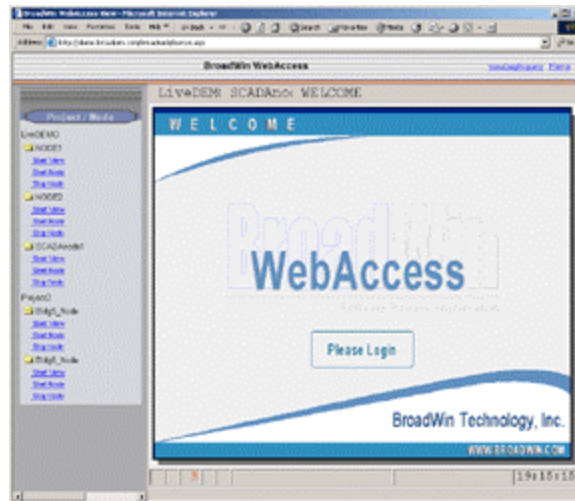

Figure 1.20 VIEW Login - multiple Nodes
- 4a. If there are more than one Project or SCADA node, a Project Tree appears (Figure 1.20). Select **Start View** under the SCADA node from the Navigation Tree in the left frame.
Hint - Notice that Figure 1.19 does not show the Navigation Tree in the left frame. Yet, Figure 1.20 shows multiple Nodes each with Start Node, Start View and Stop Node. If there is only one SCADA Node in the project, the navigation tree is not shown.